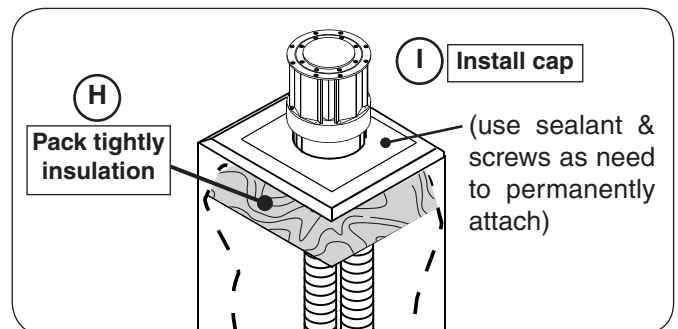

Fig. 21-4 Insulate chimney top & install cap
8. Pack tightly insulation (not included) around the pipes inside the top of the chimney area (prevents moisture and wind from entering chimney). See Fig. 21-4, H.
9. Place the termination cap assembly in position atop the chimney. Permanently attach using Mill-PAC or sealant and screws (as appropriate for setup). See Fig. 21-4, I.